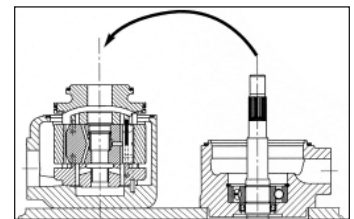

Figure 48
8. Assemble the front cap ASSY on the housing and cartridge ASSY (Fig. 48).